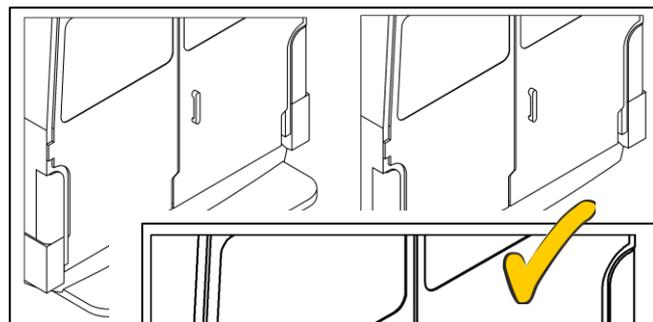

Fig. 8
- If the vehicle has a bumper with an integrated step, replace it with a standard bumper (see Fig. 8).